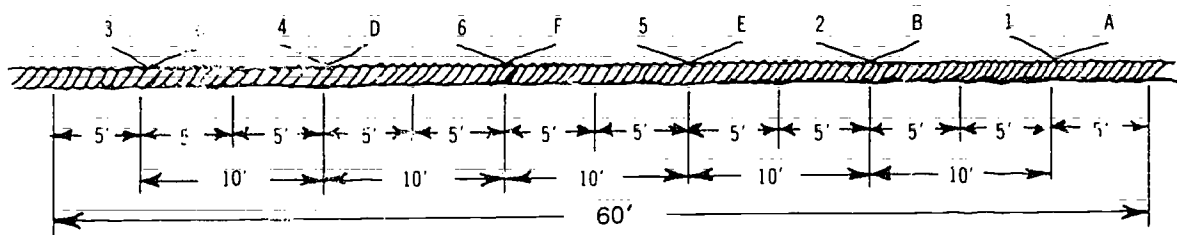

Figure 7-52. Splicing Wire Rope — Step 5
Step 5 Unlay Strand 5 back to the 5' mark and lay Strand E in its place. Then unlay Strand F back to the 5' mark (in the opposite rope) and lay Strand 6 in its place. The splice should now be laid out as in Figure 7-52.